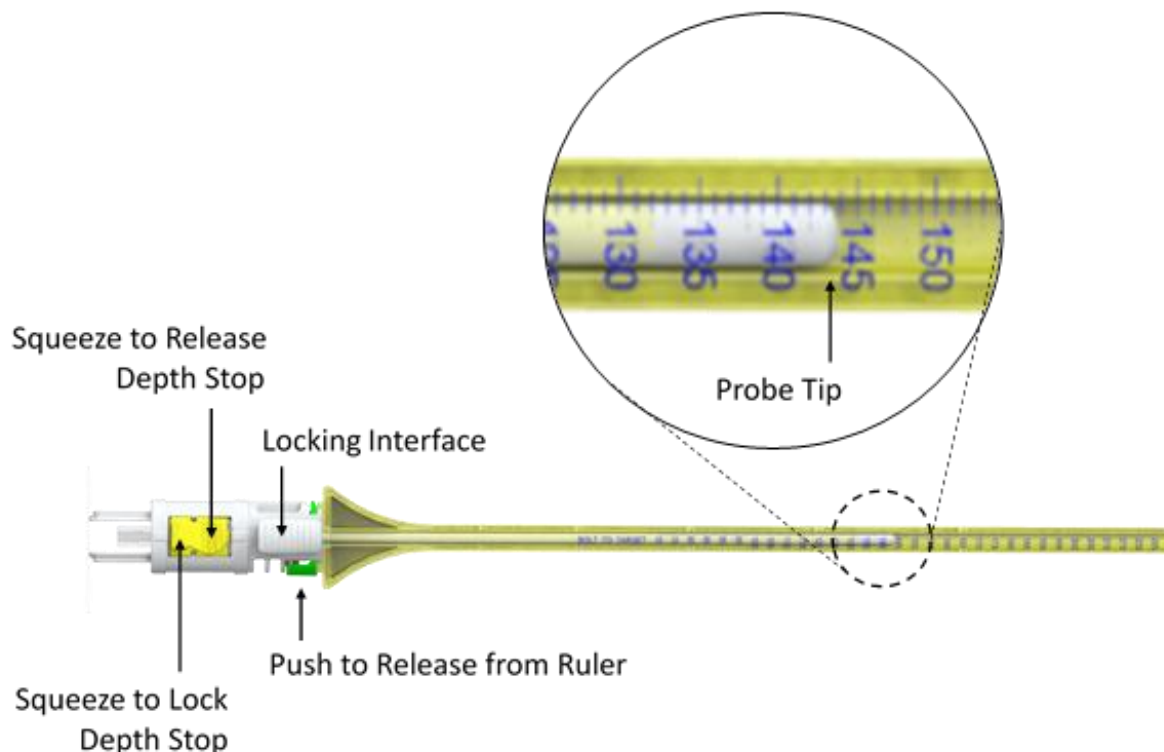

Figure 8.6.1: Adjustment and Setting of Depth Stop
- Ensure the LDP is fully inserted into the ruler provided as shown in Figure 8.6.1. When inserting the LDP into the ruler an audible click can be heard when fully inserted.